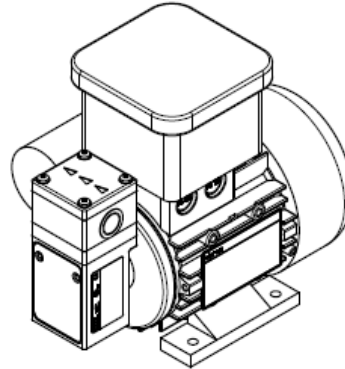

Fig. 4: optimum installation position / horizontal
- Installation position → Generally speaking, the pump can be mounted in any orientation. For maximum precision and rapid venting, install pump as shown in the illustration (Fig. 4).